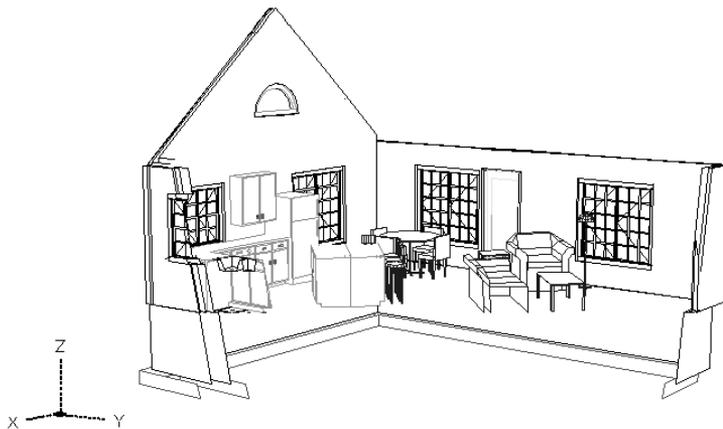

Figure 22-35: The final perspective view.
12. Right-click and choose Hide to hide the drawing. Your drawing should look approximately like Figure 22-35.